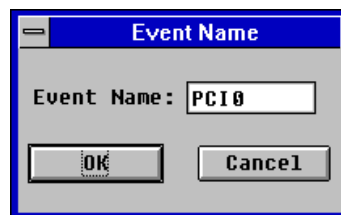

Figure 4.16 Renaming an event
**Rename** Select an entire event by clicking on the name of it, for instance select event PCI0 by clicking on the name PCI0. The event is highlighted. Double click on the name, or press CR. The Rename Event dialog box appears, as in Figure 4.16. Change the name and press the OK button.